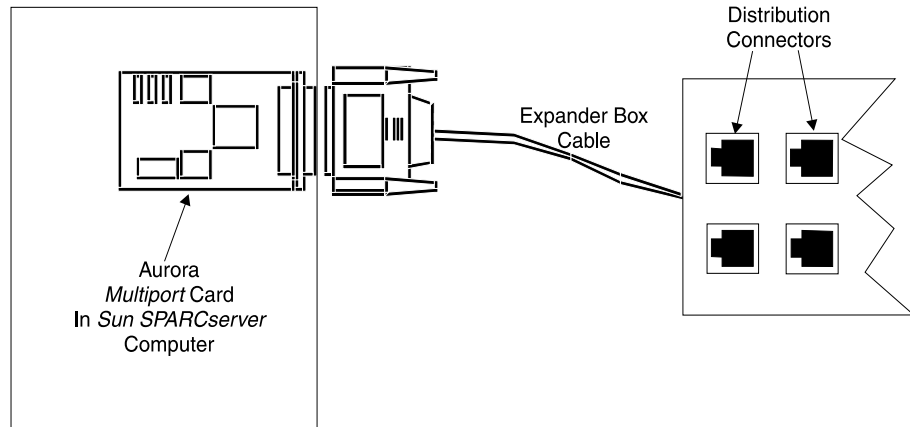

Figure 3-25: Expander Box Connection to Aurora *Multiport* Card
1. Attach the expander box cable to the SBus *Multiport* card. Tighten the thumbscrews securely. See Figure 3-25.